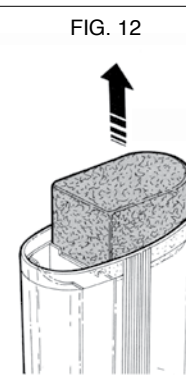

FIG. 12
**BIOLOGICAL FILTER** (fig. 12): The biological filter cartridge must not routinely be removed during the maintenance of the other parts. This will prevent damage of the bacterial colonies. If it becomes necessary to clean, rinse it very gently in water from the tank transferred to a small bowl, dispose of the dirty rinse water. **DO NOT RETURN IT TO AQUARIUM.** This avoids damage of bacterial colonies due to the chlorine present in tap water.